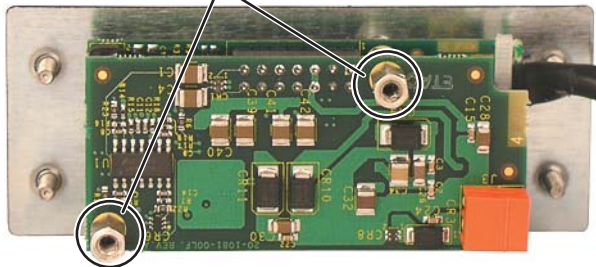

Figure 2-6 — Removing the audio board
3. Remove and retain the two standoffs that secure the audio board to the main (video) board (figure 2-6). Lift the audio board out of the way.